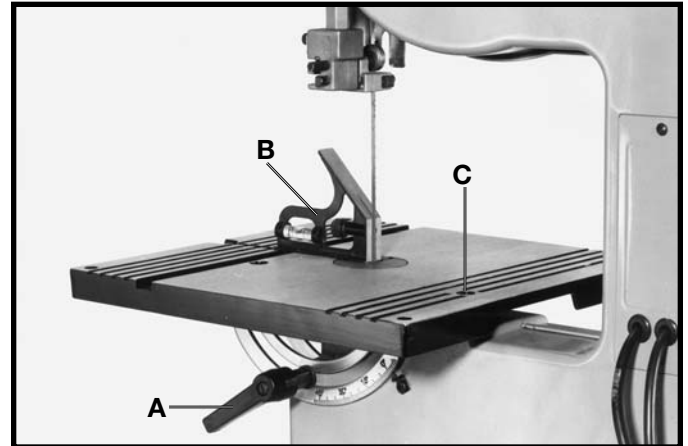
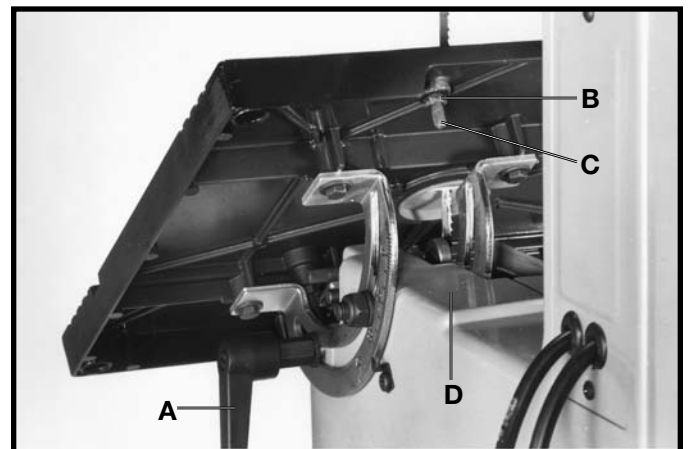

Fig. 28
Fig. 29
1. Tilt the table to the 90 degree position (all the way to the rear) and tighten lock handle (A) Fig. 28. Place a square (B) on the table and against the blade and check to see if the blade is 90 degrees to the table surface. If an adjustment is necessary, proceed as follows:
2. Tilt the table slightly forward as shown in Fig. 29. Loosen lock nut (B) and using wrench provided, turn adjusting screw (C) Figs. 28 and 29, from top of table until bottom of screw (C) contacts surface (D) when blade is 90 degrees to the table. Then tighten lock nut (B).